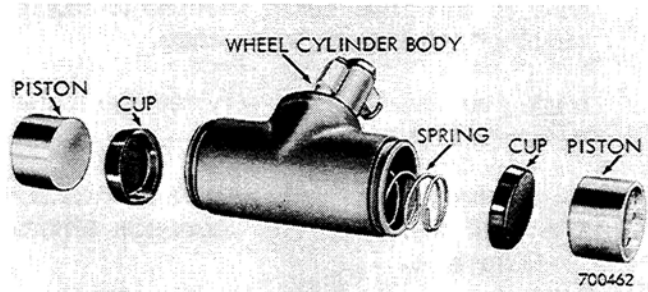

Figure 6
2. Remove the pistons, cups and spring from the wheel cylinder, Figure 6.